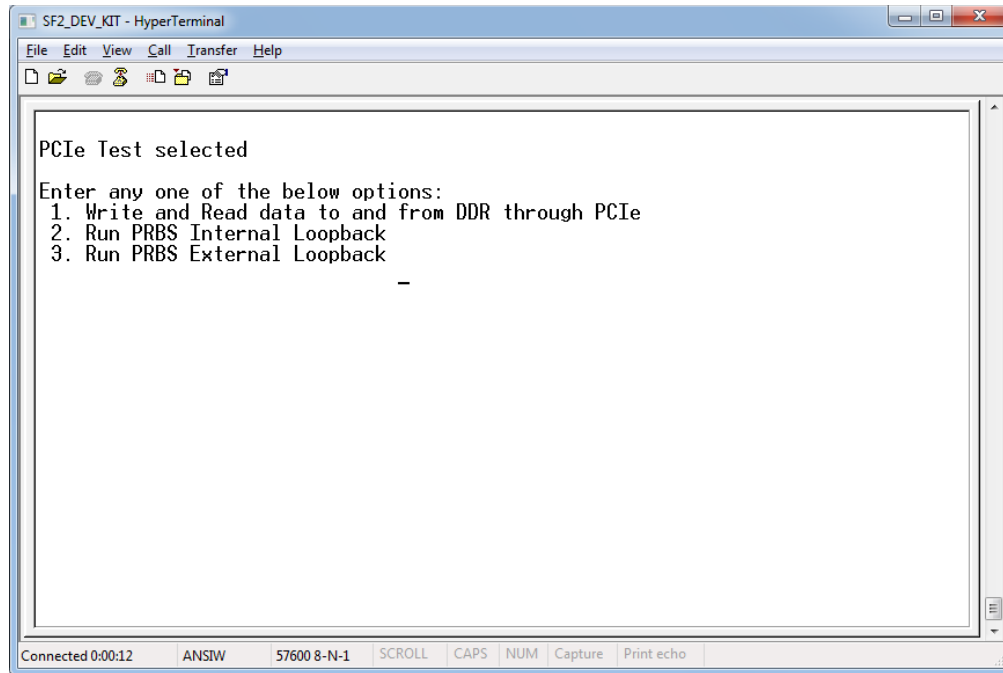

Figure 15. PCIe Options
14. After restarting the host PC, start the HyperTerminal program and enter **9** into the HyperTerminal to begin the PCIe test. A message is displayed, as shown in Figure 15.